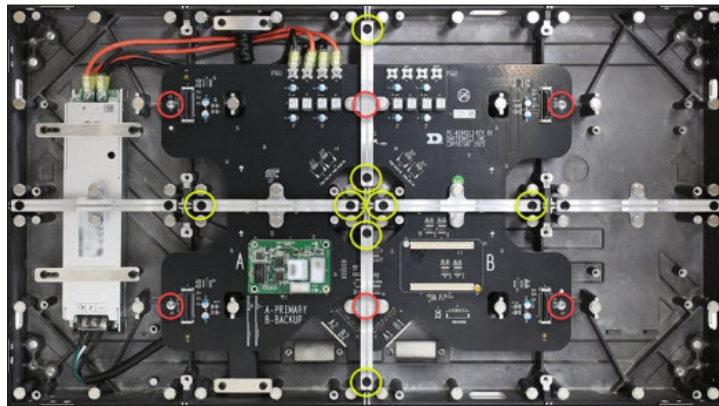

Figure 26: Remove Hub Board
5. Remove the eight screws (circled in yellow in **Figure 26**) on the support bars.
6. Remove the six screws (circled in red in **Figure 26**) securing the hub board, and then remove the hub board.